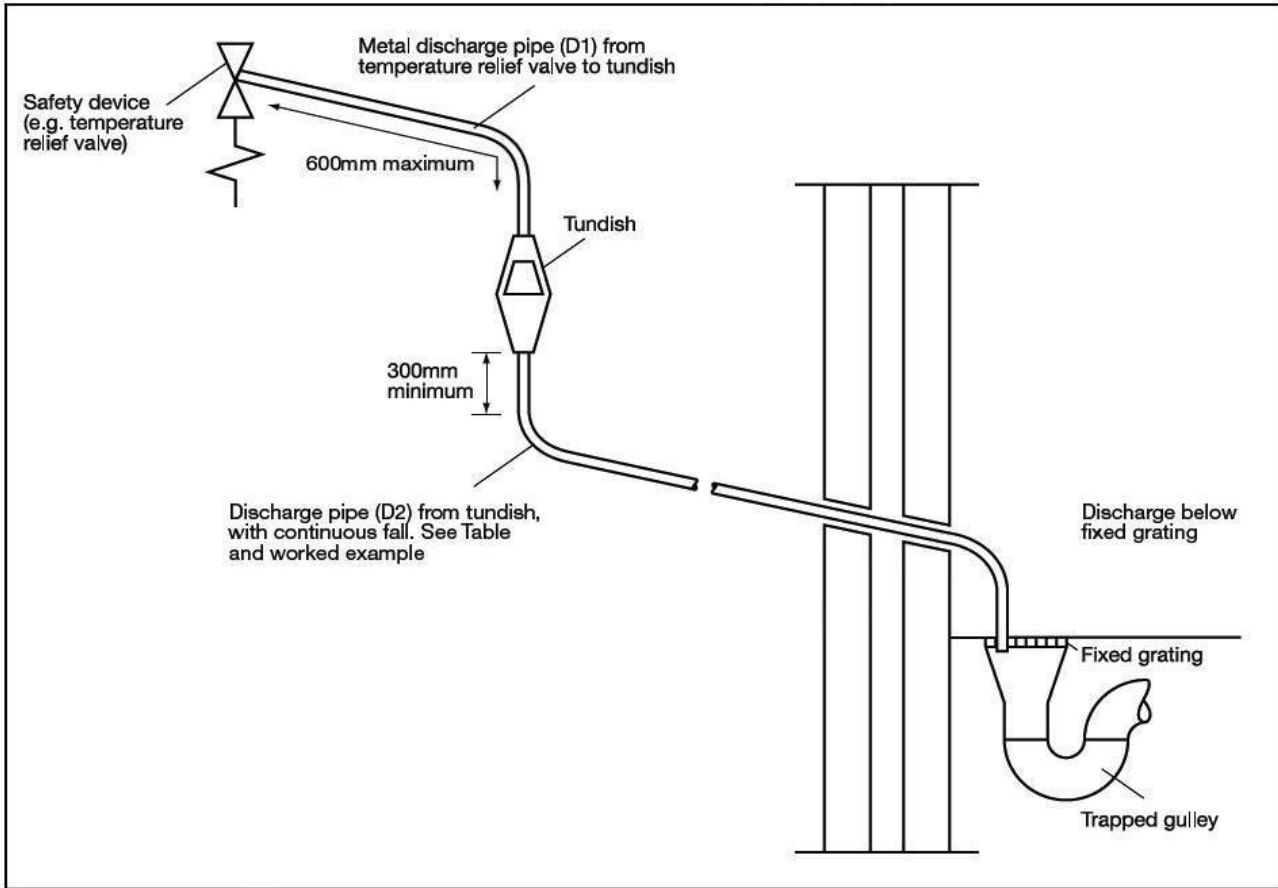

Figure 3: Typical discharge pipe arrangement
The discharge pipe D2 should be at least one pipe size larger than the nominal outlet size of the safety device unless its total equivalent hydraulic resistance exceeds that of a straight pipe 9m long, i.e. for discharge pipes between 9m and 18m the equivalent resistance length should be at least two sizes larger than the nominal outlet size of the safety device; between 18 and 27m at least 3 sizes larger, and so on; bends must be taken into account in calculating the flow resistance. See Figure 3, Table 2 and the worked example.
- The tundish should be vertical, located in the same space as the unvented hot water storage system and be fitted as close as possible to, and lower than, the safety device, with no more than 600mm of pipe between the valve outlet and the tundish (see Figure 3).